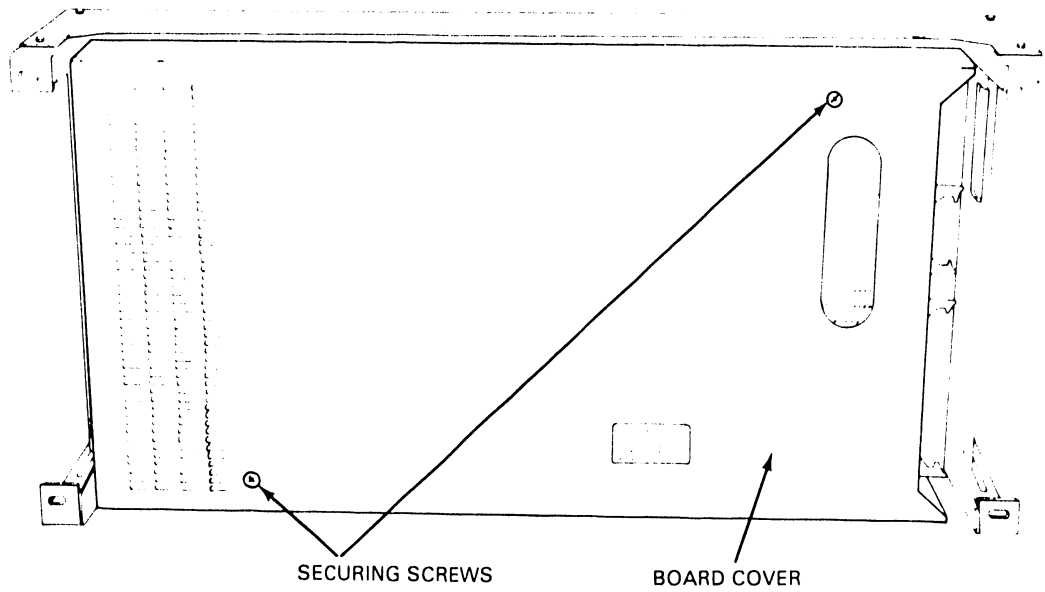

Figure 4-1 D2246 Board Cover
3. Loosen the two screws that secure the board cover to the drive unit (see Figure 4-1).